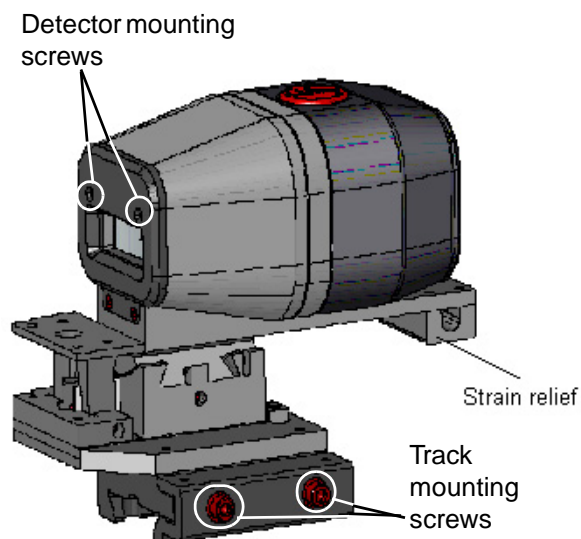

Figure 4.24 - Strain relief
- 4.1 If not already attached, attach the detector to the 2 DOF mount with the detector mounting screws shown in Figure 4.21 and Figure 4.24.
- 4.2 Place the detector on the track. Slide it down to the pinned position and tighten the track mounting screws shown in Figure 4.24.
6. Adjust the cable strain relief on the detector mount (see Figure 4.24).